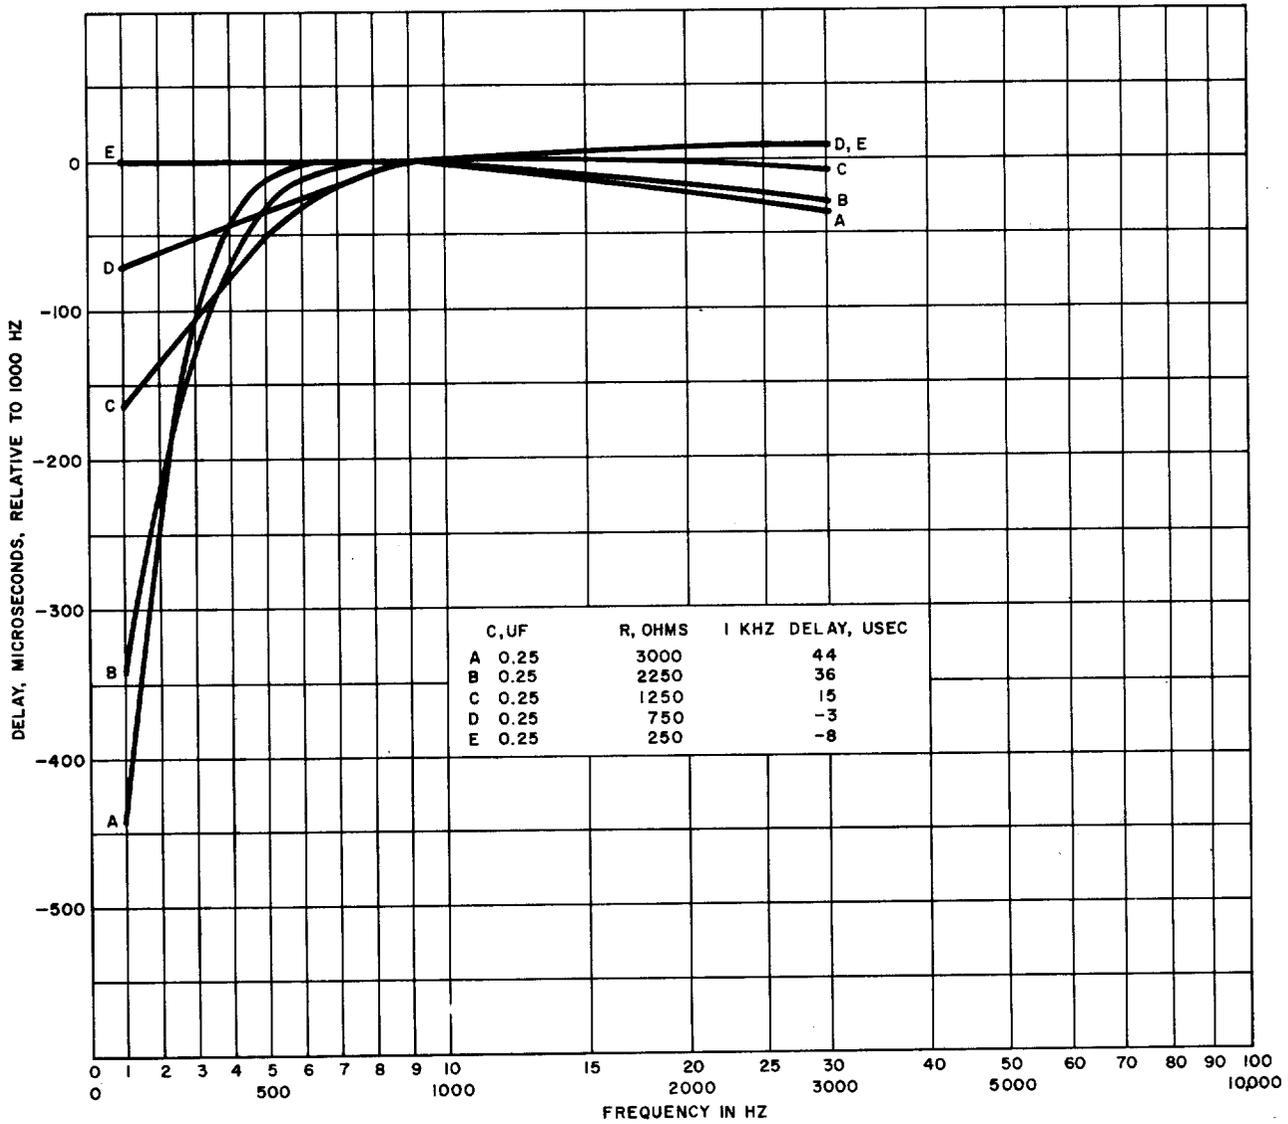
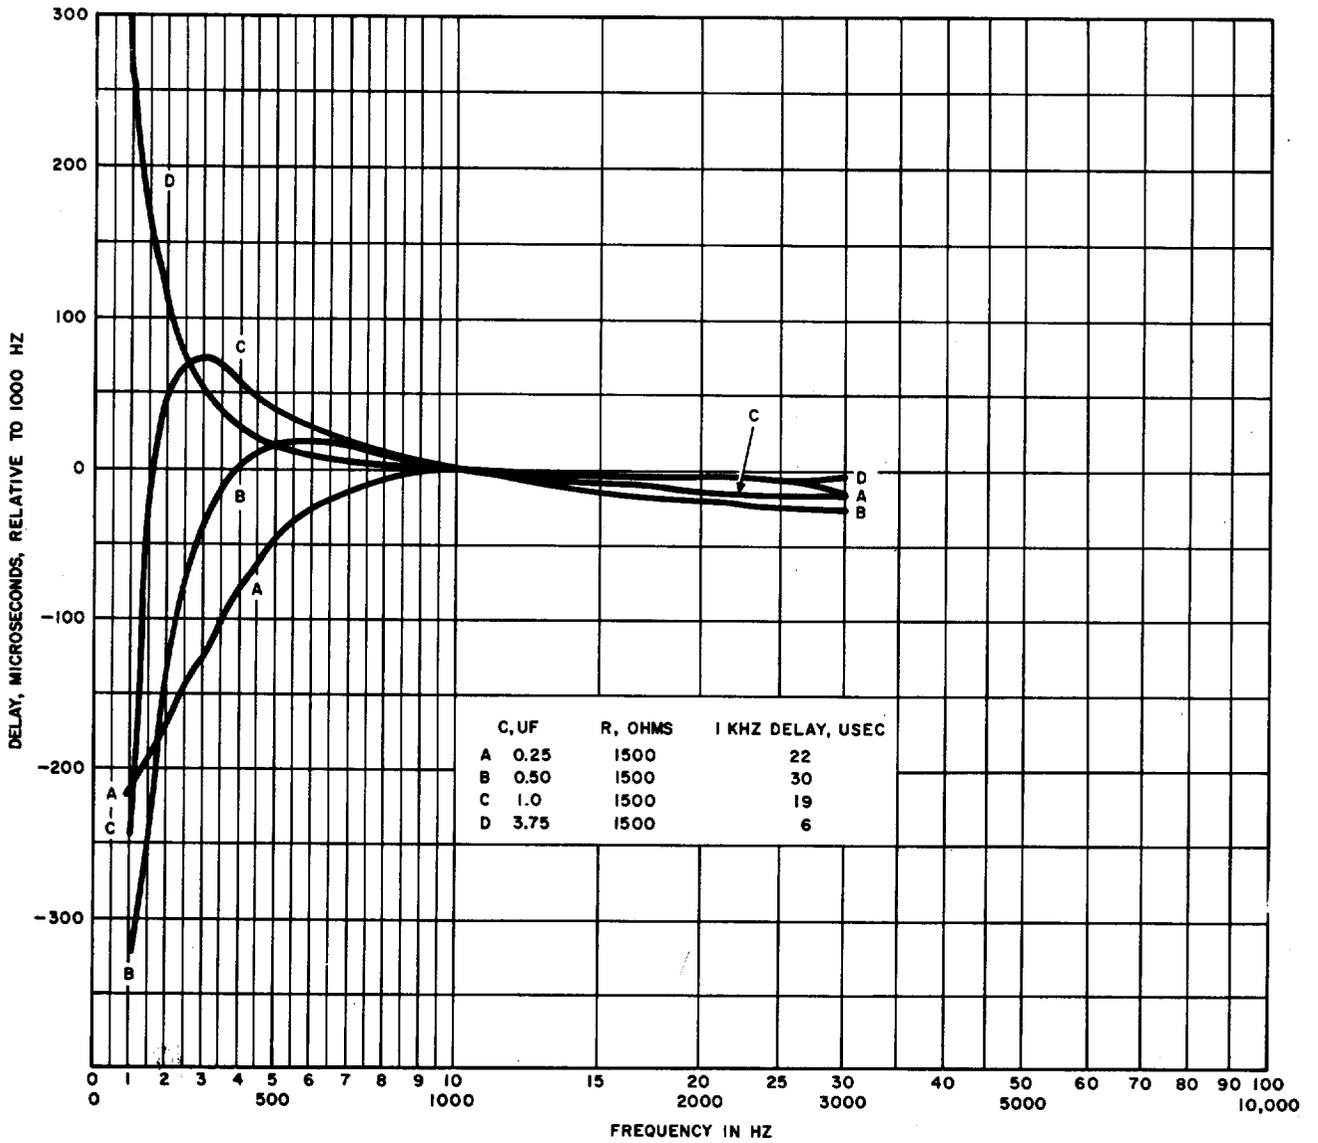

Fig. 6—359K Equalizer—Delay-Frequency Characteristics—Between 600 Ohms—
Fig. 7—359K Equalizer—Delay-Frequency Characteristics—Between 600 Ohms—
3.06 While the equalizer components provide compensation for amplitude distortion, they introduce delay distortion at the same time. Figures 6 and 7 illustrate typical delay-frequency characteristics obtained from various combinations of R and C. Figure 6 shows the results of keeping C constant at 0.25 μF and varying R; Fig. 7 shows the results of keeping R constant at 1500 ohms and varying C.